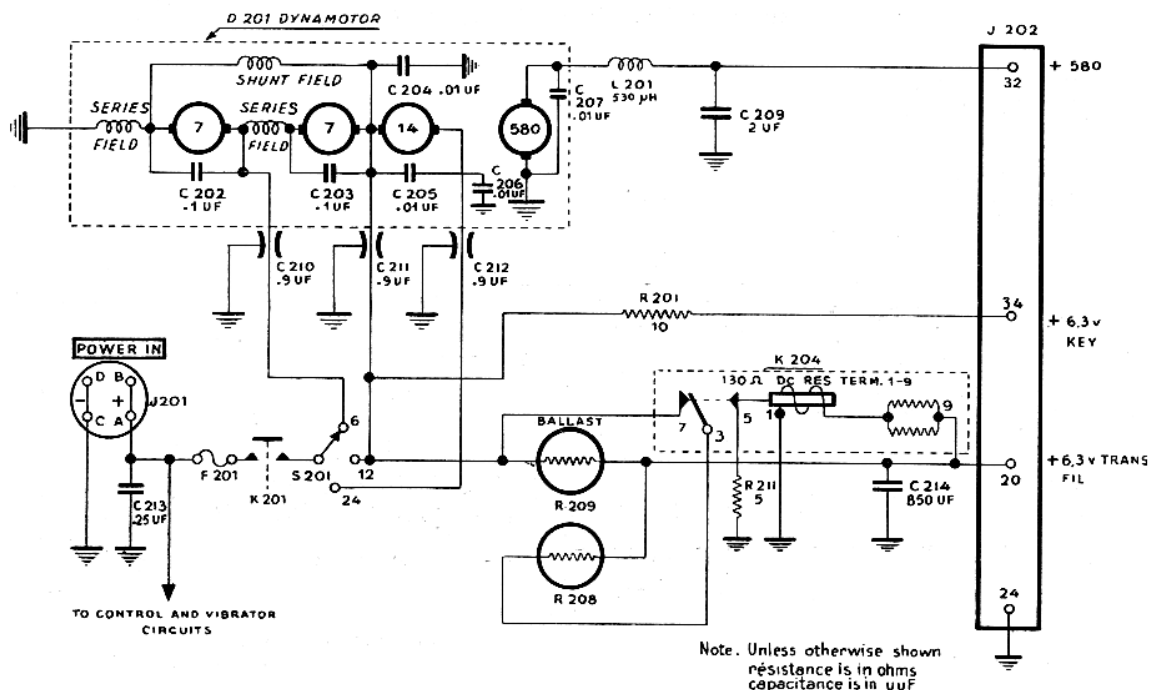

Figure 90.4. Dynamotor-Power Supply DY-88/GRC-9, dynamotor circuits.
*b.* **DYNAMOTOR START CIRCUIT.** Battery power is applied to the dynamotor through DYN FUSE F201, the closed contacts of dynamotor start relay K201, and voltage selector switch S201 (fig. 90.4). Voltage selector switches S201 and S210C permit operation from a 6-, 12-, or 24-volt battery.
*d.* The h-v output from the dynamotor is fed through terminal 32 of J202 and is applied to the p-a plate when control Ⓢ is turned to the SEND position (fig. 90.4). No p-a plate current flows until keying relay K101 is energized and contacts 9 and 10 close to apply high voltage to the p-a screen (figs. 80 and 81).
#### 125.7. Transmitter Filament and Keying Relay Supply (fig. 90.4)
*c.* All armatures have a common field, so that any non-driving armature acts as a generator. Thus when S201 (fig. 90.4) is in the 6-volt position, the first 6 volt armature acts as a motor and the second 6 volt armature acts as a generator and will produce approximately 6 volts that will add to the battery voltage to make approximately 12 volts dc. Likewise, when switch S201 is in the 24-volt position, the voltage across the two 6-volt armatures in series will be approximately 12 volts because of the voltage dividing action of motors connected in series. Therefore, with S201 in any position (6, 12, or 24 volts), the voltage across the two 6-volt windings of the dynamotor always will be approximately 12 volts. This characteristic provides a convenient source of voltage which can be reduced by means of ballast tubes R208 and R209 in parallel to 6.3 volts for the transmitter filament (par. 125.7) even though the battery of the vehicle may be above or below this voltage. Therefore, because of the regulating action of the dynamotor on 6 volts and on 24 volts and because of the regulating action of the ballast tubes, the transmitter filaments are assured of the well-regulated voltage that their filaments require. On 12-volt operation, the filament circuit is connected directly to the battery through ballasts R208 and R209.